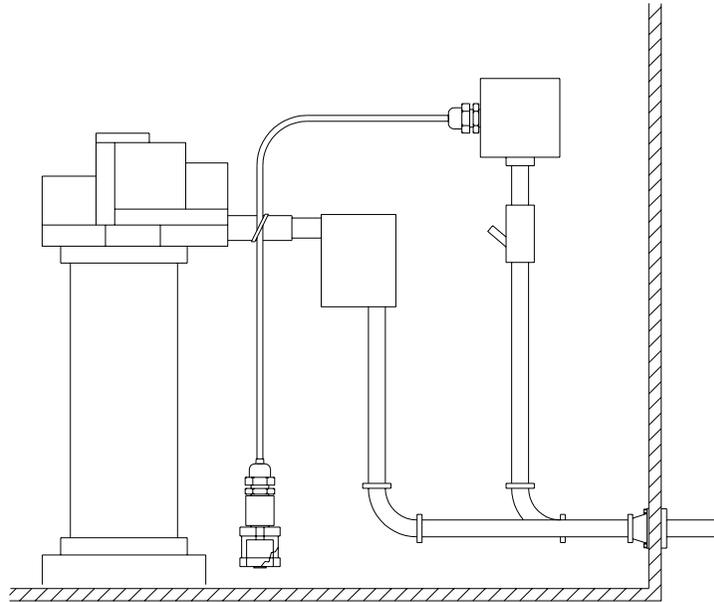

Figure 29: Typical Alternate Sensor Sump Installation
**Figure 29** applies to dispenser pans/sumps, and STP sumps. Although only the float switch is shown, mounting applies to all liquid sensor applications.